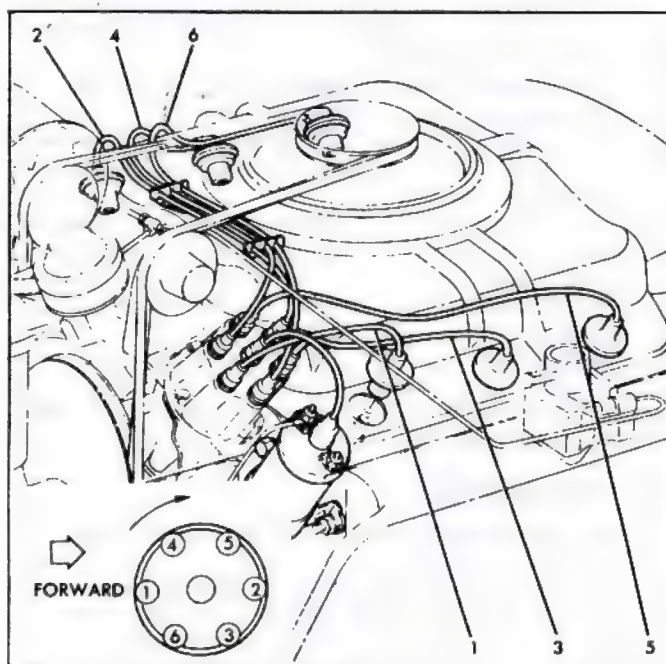

Fig. 8i—Distributor, Spark Plug Wires Installed
3. Replace distributor hold-down clamp and bolt. Connect primary lead to coil terminal. Replace distributor cap. Also install spark plug and coil secondary wires if removed (fig. 8i).
7. Install cap, check all high tension wire connections and connect spark plug wires if they have been removed. (See Figure 8i). It is important that the wires be installed in their proper location in the supports.